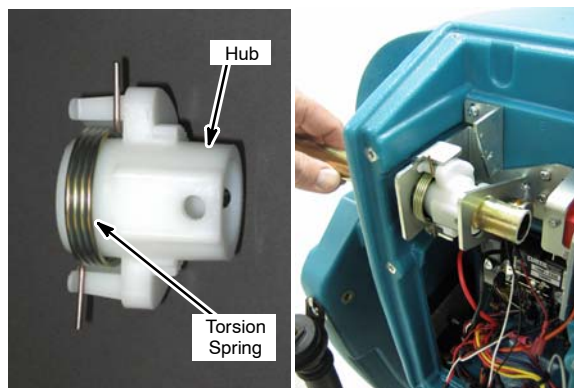

Fig. 11
- b. Attach the torsion spring to the new hub and slide the handle bar through the hub assembly (Figure 11).